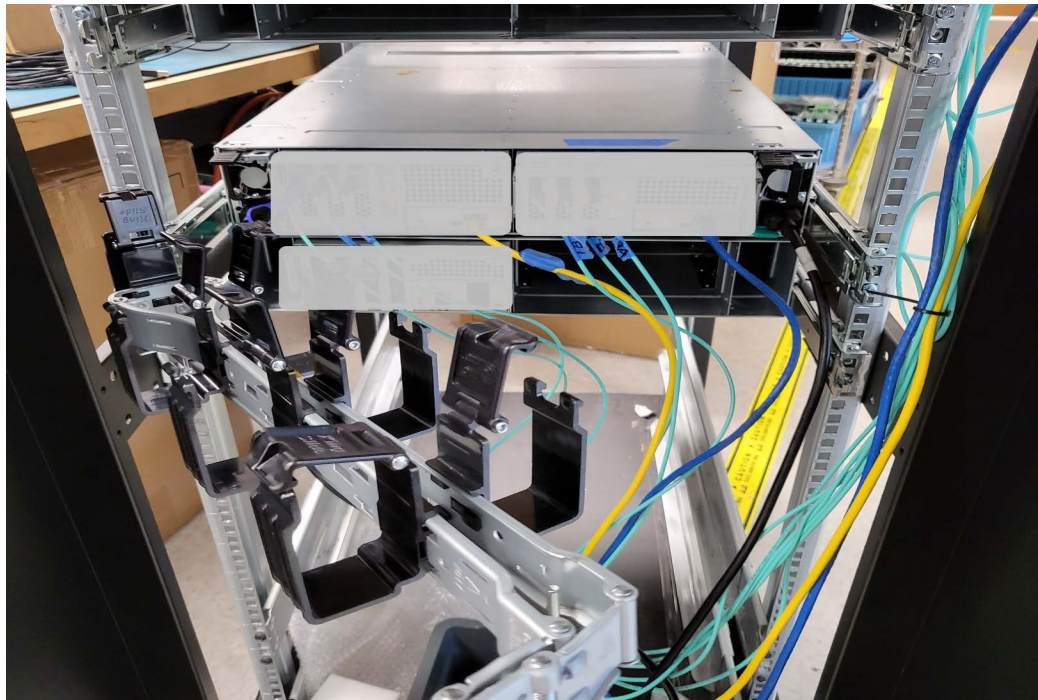

Figure 8.11 CMA arm side cleared
6. Swing the CMA arm outward, as shown in Figure 8.11.